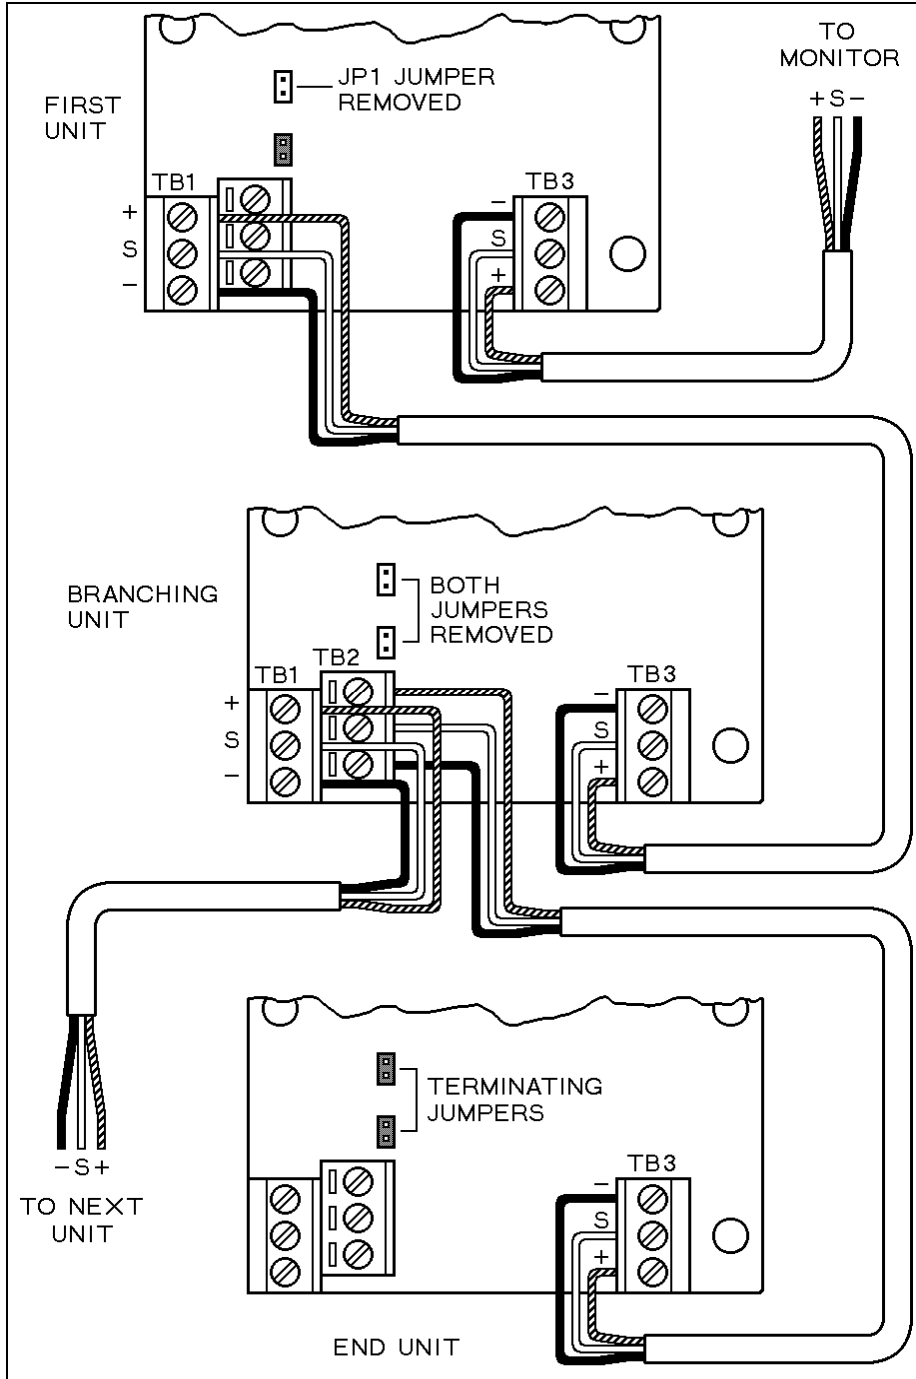
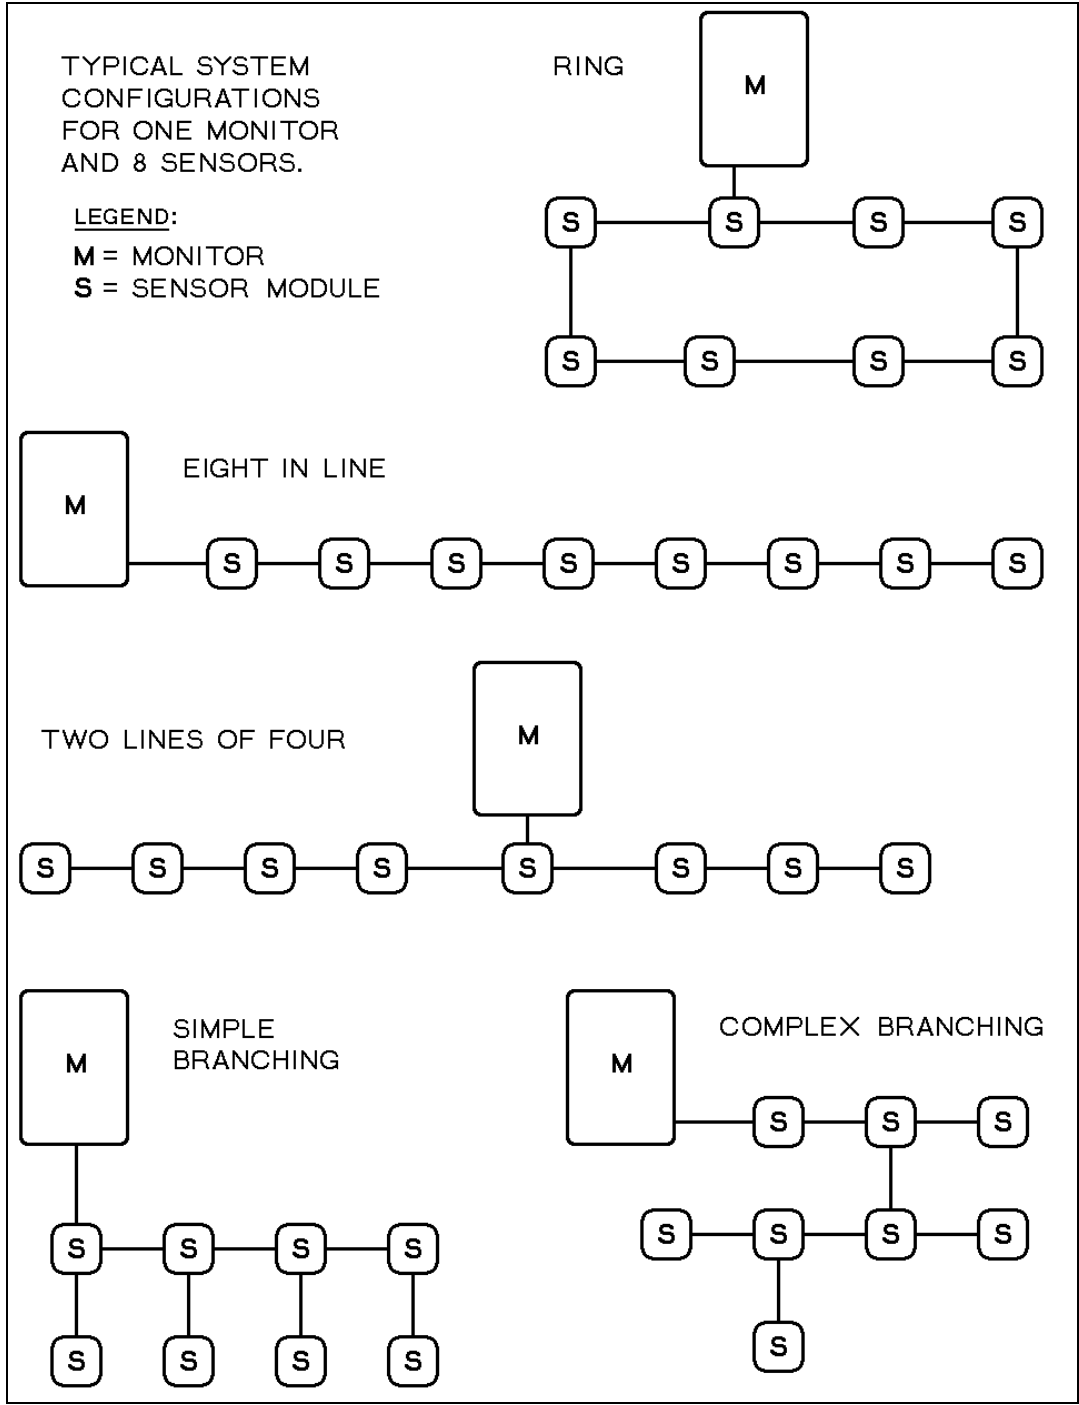

Figure 4-3 Detail Wiring of Sensor Modules
Figure 4-4 Typical System Configuration Layouts
The AMC-1225 sensor unit provides continuous, reliable surveillance of surrounding air for traces of hazardous gases that are listed in the Product Information Section. This unit is designed to allow interconnection in series as in a "daisy chain" configuration (refer to Figure 4-3) to a single or multi-channel AMC-1A series monitor or so equipped inputs of other AMC Gas Monitors. A maximum of eight (8) sensors can be connected to each zone. The units can also be branched out from the central line allowing maximum flexibility. Each unit provides Low alarm, High alarm and sensor Fail signals, which are transferred from one sensor to the next down the line back to the monitor.
To gain access to the terminal blocks, remove the four (4) screws and front panel from the housing. This will expose the field wiring terminals. The sensor / transmitter output (-,s,+) terminal block connects to the input terminal block of the previous unit or to the sensor / transmitter terminal block in the monitor as shown in Figure 4-3.
Each sensor is designed to interconnect to other units in series and/or parallel combinations. Various typical configurations are shown in Figure 4-4, illustrating the versatility of this type of system. Because each sensor is pre-calibrated, additional units can be added to a system without altering the monitor settings. When multiple units are interconnected, either some or all jumpers need to be removed. See Figure 4-3
For any unused terminals a jumper has to be inserted. See Figure 4-3. Failure to do so may cause the system to malfunction.